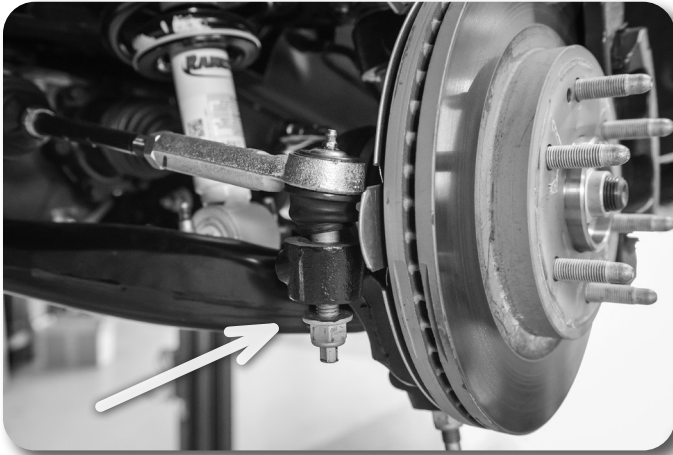

Figure 3
6. Remove the nut from the steering tie rod end. **Figure 3** Thread the nut back on a couple of turns by hand. Strike the knuckle near the tie rod end to dislodge the rod end taper from the knuckle. Remove the nut and the tie rod end from the knuckle. Save nut.